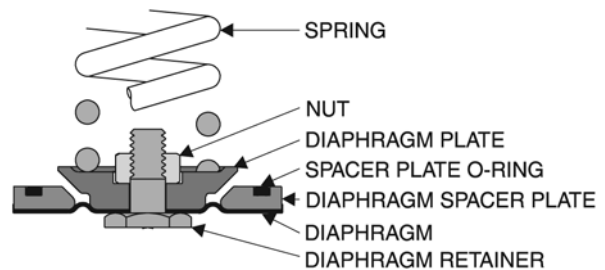

Figure 26- Insert Body Insert (Cartridge) with lubricated Stem O-Ring into the Pilot Body.
1. **Diaphragm Assembly:** Install the Pilot Diaphragm with convex side toward Diaphragm Plate and Main Spring (Refer to Figure 26). Tighten nut on the Diaphragm Retainer to approximately 5 to 6 ft-lbs torque.
- Place Diaphragm Assembly in the pilot body with the diaphragm touching the grooved sealing surface of the pilot body and the O-Ring facing up. (Refer to Figure 26 & Figure 27).